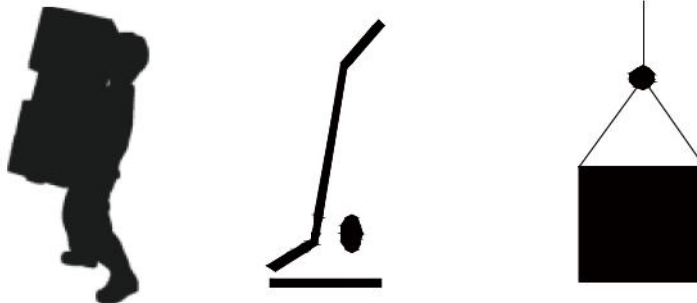

FIG 9-2
3) Product handling, generally using portable, car handling and lifting and moving, as shown in the figure 9-2